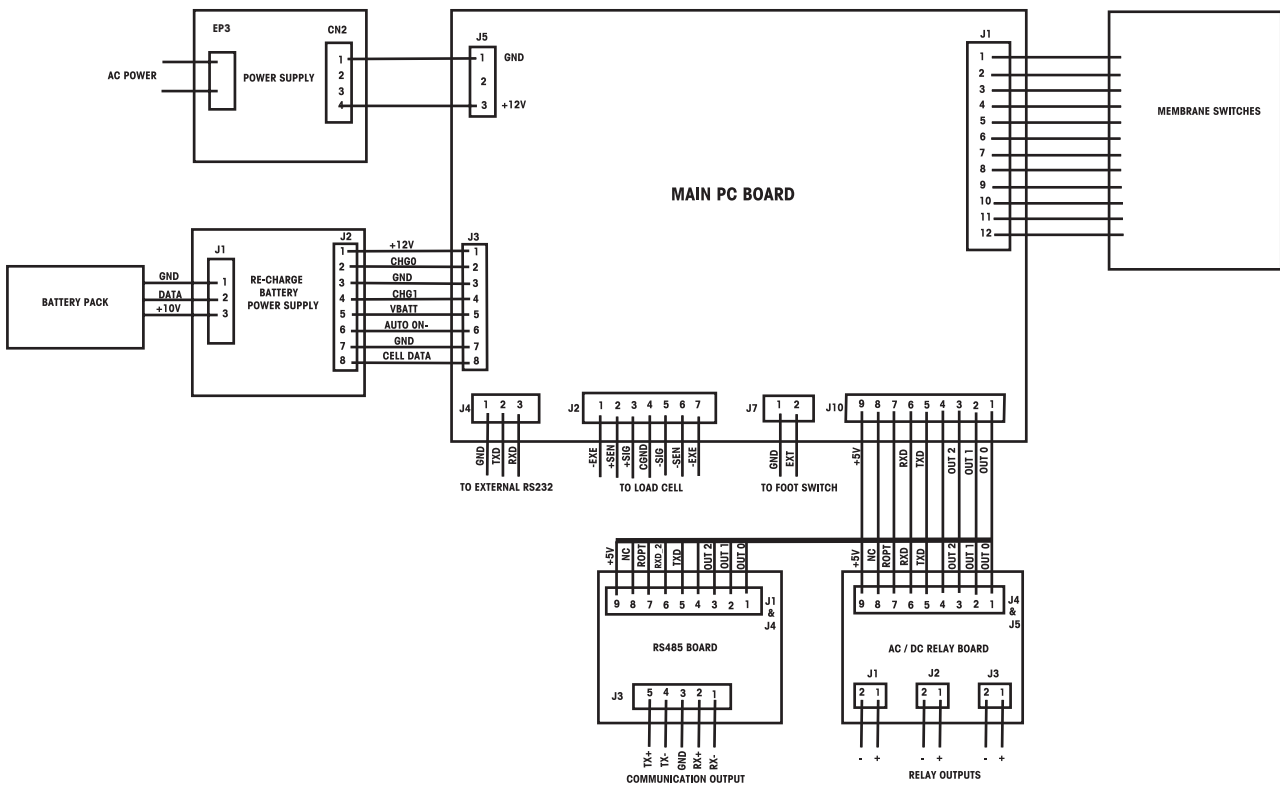

Figure 3-2. Interconnection Diagram.
Loose or improper wire connections.	Refer to Figure 3-2 for proper wiring.
4. Refer to Figure 3-2, Interconnection Diagram that illustrates the interconnections to the Main PC Board and is shown as a top view.
4. Connect the Simulator to connector J2. See Figure 3-2 for terminal identification.